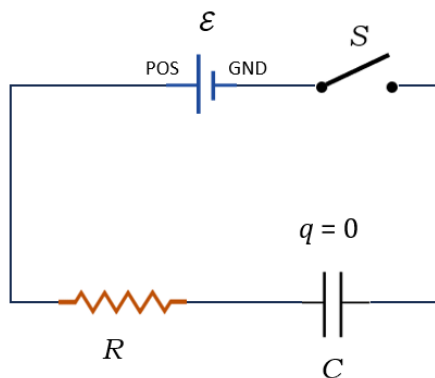
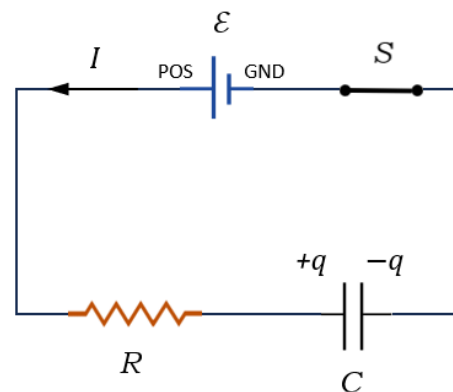
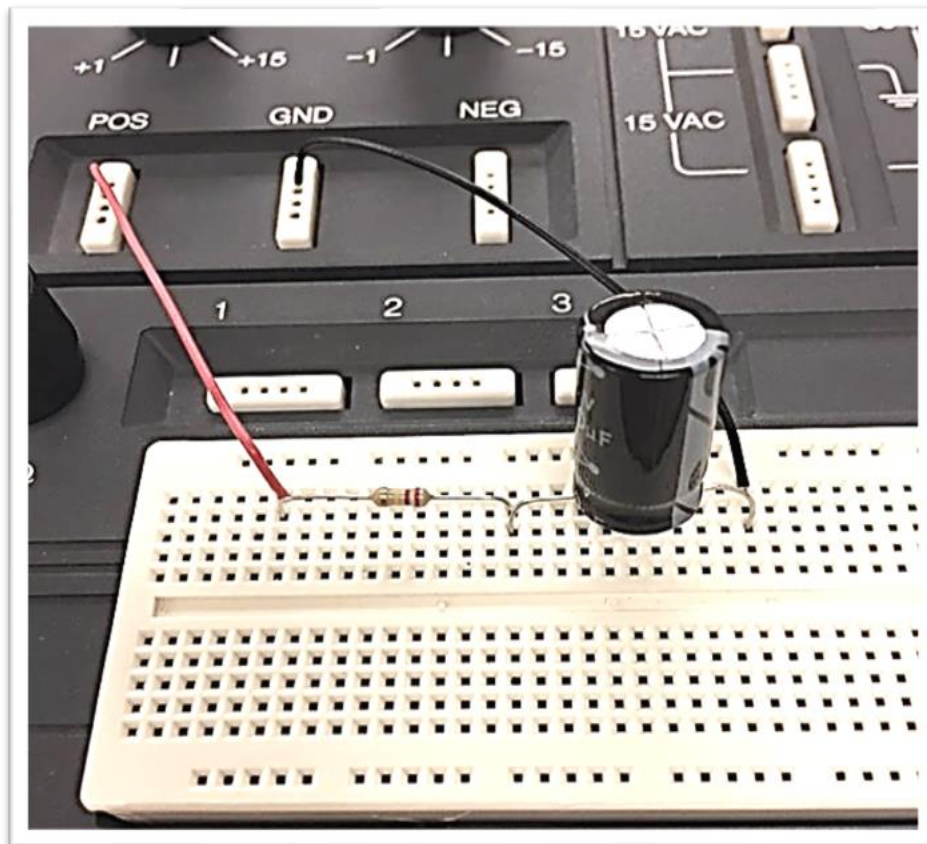

Fig. 1
Fig. 2
Fig. 4: R-C charging circuit connection
In this experiment we will use a cylindrical capacitor to analyze the process of charging a capacitor. Consider a single loop circuit as shown in **Fig. 1** where a capacitor C is connected in series to a resistor R and to an electromotive force (power supply) \mathcal{E} . Capacitor C is initially uncharged. By closing the switch S , a current (I) is set up in the loop and the capacitor begins to charge (**Fig. 2**).
1. Connect the circuit given in **Fig. 1** as shown in **Fig. 4** (make sure that the negative lead of the capacitor is connected to the ground).